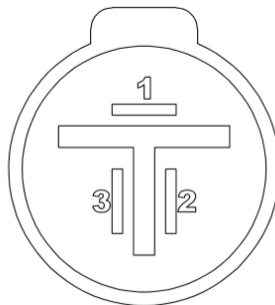

Figure 1: Coil Connector, Front-Terminal side, Ignitor Side.
1. **IGT:** You will need to connect your factory IGT wire to Pin #2 on our harness(See Figure 1). To do this, you will need to cut Pin #1 on the harness side of your factory coil connector. After you have cut that wire, you will need to strip ¼" of the insulation, and crimp the supplied DTM terminal onto the wire. When that is done, you can now pin that wire into Pin #1 on the supplied DTM06-2S connector.